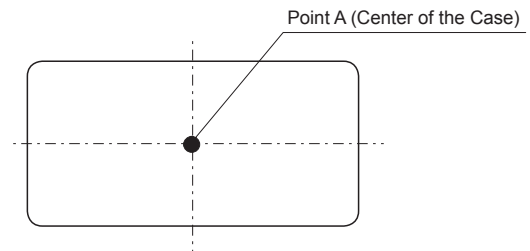

Fig.7.2 Temperature Measuring Point on the case (Top View)
- In case of forced air cooling, please have sufficient ventilation to keep the temperature of point A in Fig.7.2 at 110°C or below.